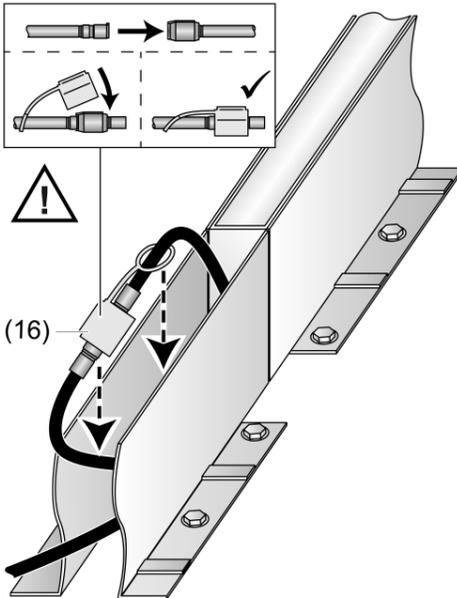

Figure 3: Installing the locking sleeve
- i The installed luminaire exceeds the upper edge of the frame by 5 mm (Figure 3). The upper edge of the floor after finishing must therefore also exceed the frame by 5 mm.